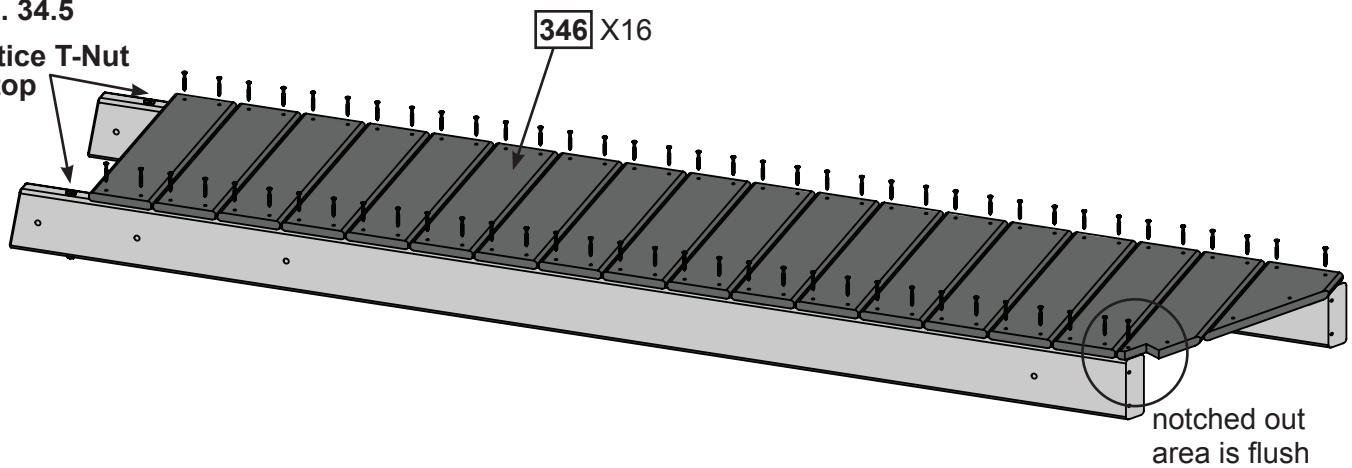

Fig. 34.6
G: Measure 5" from ladder end of (343) Tunnel MK Rail Left and (342) Tunnel MK Rail Right and attach 1 (346) Floor Board using 4 (S20) #8 x 1-3/8" Wood Screws. (fig. 34.6)